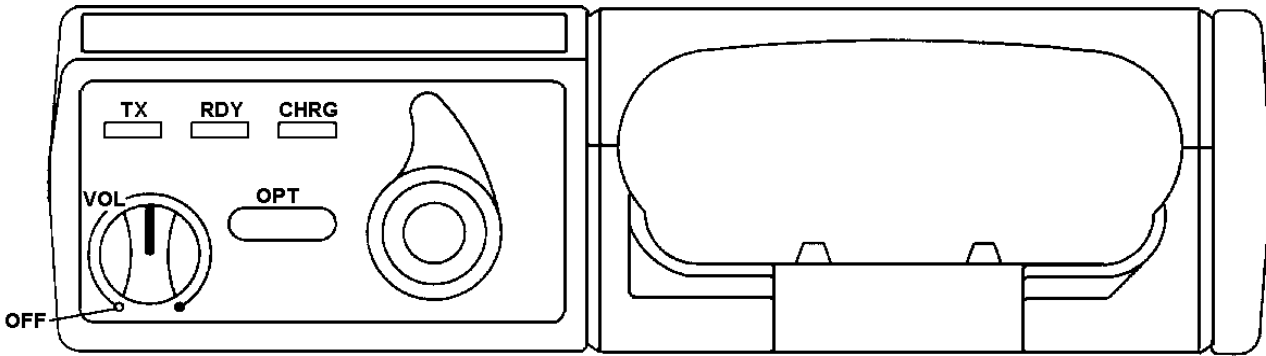

Figure 1A - M-RK Vehicular Chargers
The front panel of this charger contains three (3) indicator lights; **RPT**, **RDY**, and **CHRG**, an **ON/OFF** switch for the Repeater Radio and the **UDC ROTARY LATCH KNOB** (Refer to Figure 1A and 1B).
- (1) **Indicator Lights:**
- (2) **Repeater ON/OFF switch:**
The front panel of this charger contains three (3) indicator lights; **TX**, **RDY**, and **CHRG**, an **ON/OFF** volume control switch for operation of the M-RK personal radio as a mobile radio, an option push-button, and the **UDC ROTARY LATCH KNOB** (Refer to Figure 1A).
- (2) **ON/OFF Volume Control Switch:**